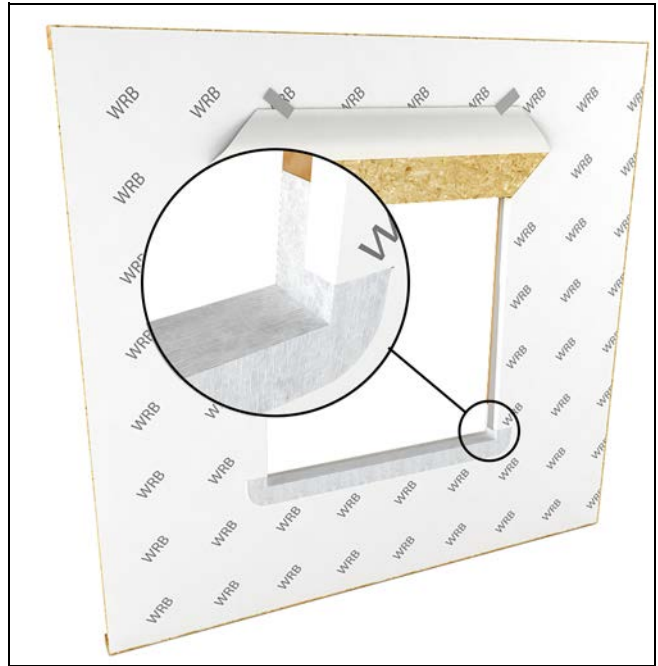

Figure 15
6. Wrap side flaps to the interior and staple in place about 1 1/2" (38) from the interior edge of the opening. Cut the excess off near the staple so that a 1" - 1 1/2" (25-38) strip of bare wood is exposed. Tape this edge with seam seal tape. See Figure 15.